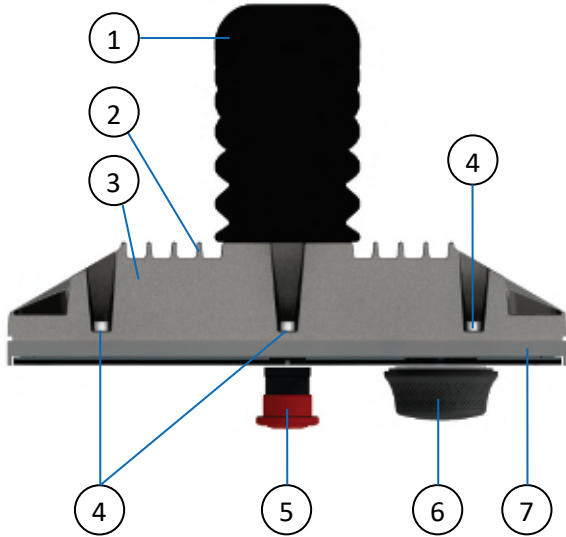
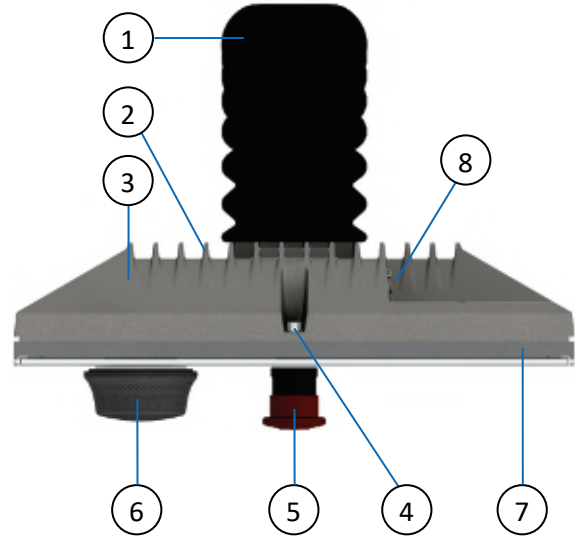

Fig. 24: Top view of the CC300 operator panel
Fig. 25: Bottom view of the CC300 operator panel
**Legend for Fig. 24 and Fig. 25:**